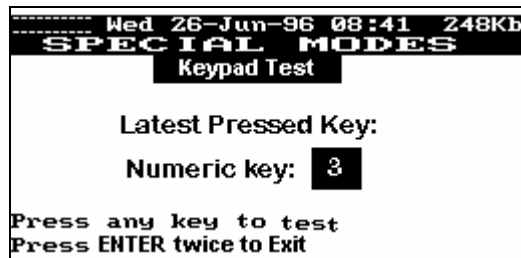

Figure 20
- SM11** Select “**4--Exercise Keypad**” and press **[ENTER]**. The screen in figure 20 below will be displayed.